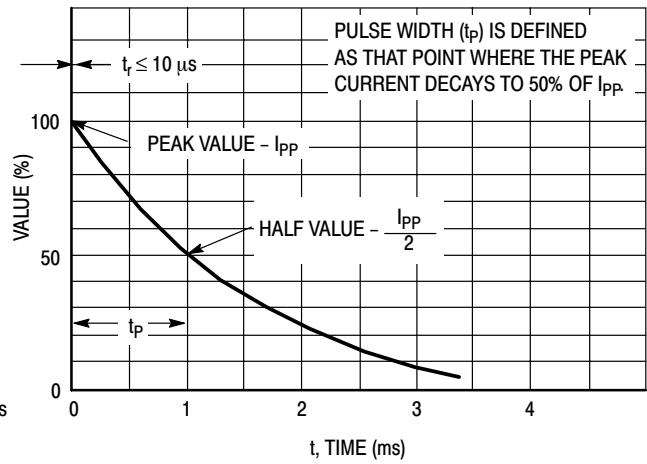
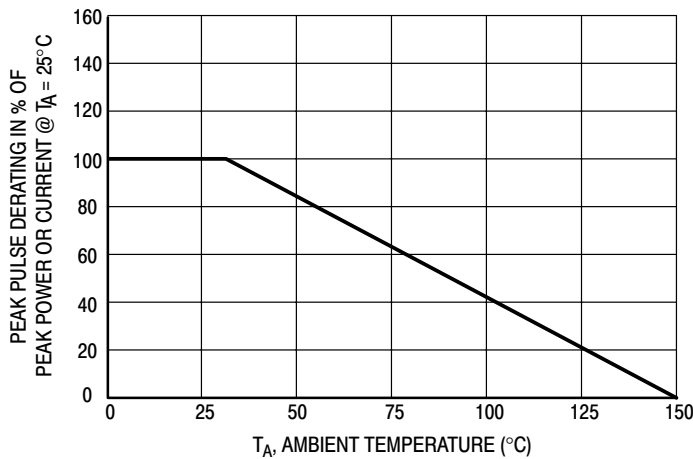

Figure 2. Pulse Waveform
Figure 3. Pulse Derating Curve
3. Surge current waveform per Figure 2 and derate per Figure 3 of the General Data – 600 Watt at the beginning of this group.